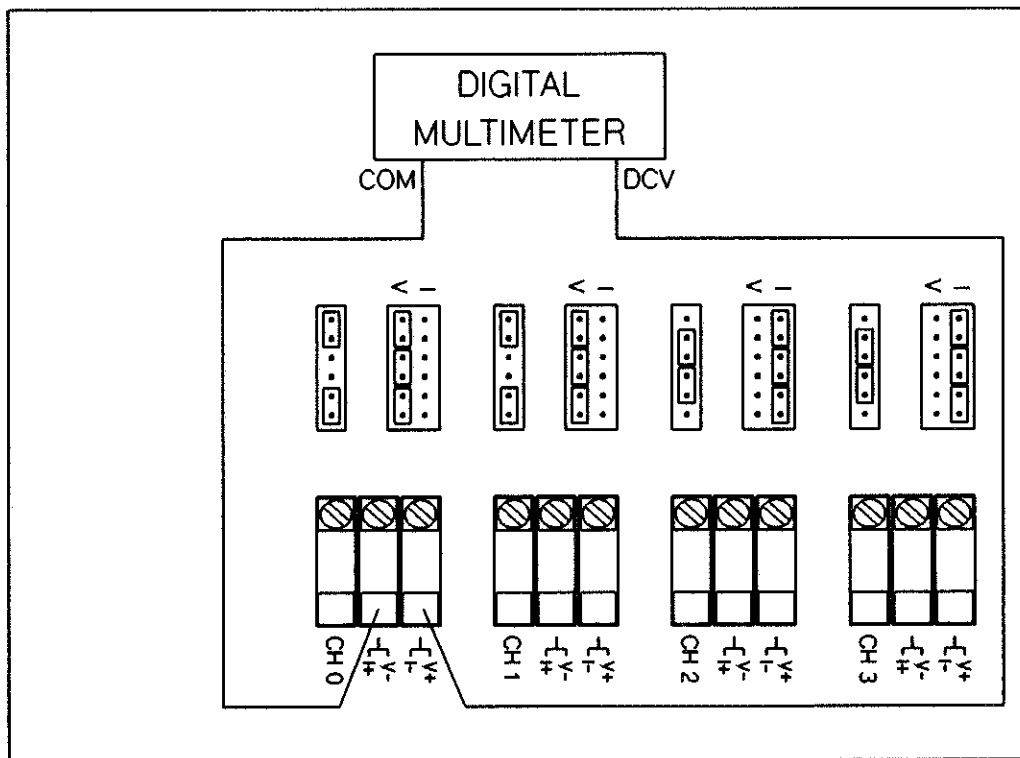

Figure 15-19 Voltage Calibration Connections
2. Set the multimeter to measure dc volts. On the terminal module, connect the multimeter DCV input to the V+ connection and connect the COM input to the V- connection of the channel to be calibrated. The connections are shown in Figure 15-19.
*In Figure 15-19, Channels 0 and 1 are configured for voltage, and Channels 2 and 3 are configured for current. Use Channels 0 and 1 jumper configuration for voltage calibration*